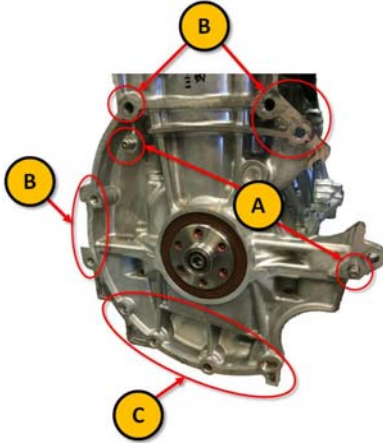

Figure 50
Refer to Figures 50 and 51:
8. Install the OHT modified bell housing (OHT p/n OHTIVB-001-1) on the rear of the engine. Align the bell housing with the two dowel pins on the engine (A).
- Note: The flywheel with clutch assembly is not shown in Figure 50.**
9. Secure the bell housing with nine (9) bolts. Five (5) bolts must be installed using a 17 mm socket torque wrench at position (B). Four bolts must be installed using a 14 mm socket torque wrench at position (C). Torque all bolts to 81 Nm (60 lbf-ft).